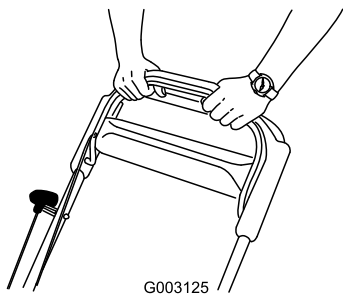

Figure 17
3. Hold the blade-control bar against the handle (Figure 17).